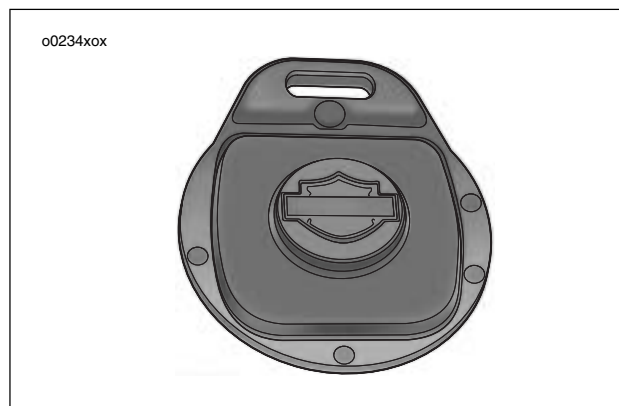

Figure 3-52. Key Fob Assembly
3. See Figure 3-52. Align case and circuit board as shown. Snap case halves together.